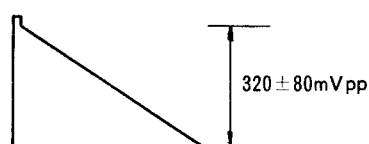
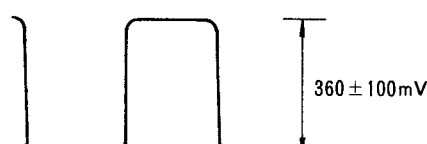
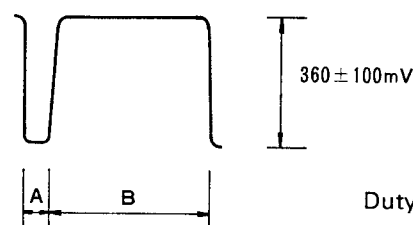

Fig. 9-1
Fig. 9-2
Fig. 9-3
- Set " $\searrow$ " Control (PVR8) at "10" and EXT/MOISE Control (PVR7), to "0", " $\sqcap$ " Control (PVR9) at "0". Now the waveform shown in Fig. 9-1 should be at TP24. Set EXT/NOISE Control (PVR7) to "0" and " $\searrow$ " Control (PVR8) at "0" and " $\sqcap$ " Control (PVR9) and "10". Now the waveform shown in Fig. 9-2 should be at TP24.
- Vary the setting of PWM (PVR6) to "10" and LFO SPEED (PVR2) to "S". Then the waveform of Fig. 9-2 should vary continuously to that of Fig. 9-3 at terminal OUT (TP24).